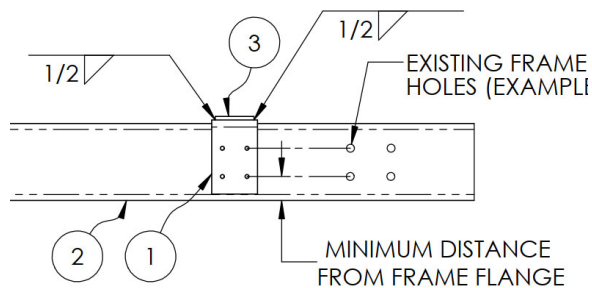

Figure 1.5
Mark and drill 4 holes per side, taking care not to drill through existing equipment such as wires, hoses, or brackets. Center top plate (3) on mounting brackets side to side and fore/aft. Weld in place. (Figure 1.5).